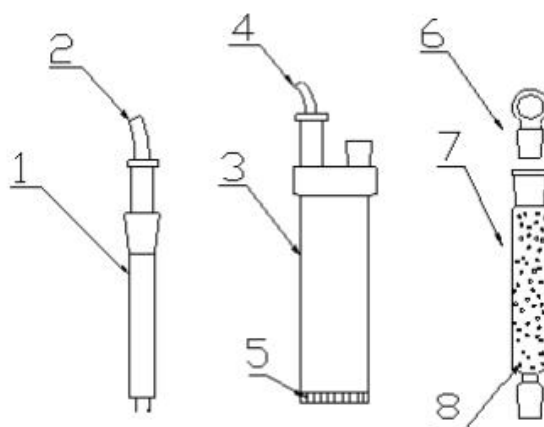

Figure 4.2
1. Stuff the bottom of the drying tube with a small amount of degreasing cotton, then fill the drying tube with blue silica gel pellets, then stuff a small amount of degreasing cotton, and finally fill it with ground glass stopper (7 in Fig. 4.2).